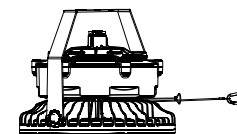

Figure 14
2. Surround the wire rope to the wire rope fixing position in the middle of the luminaire. (figure 14).